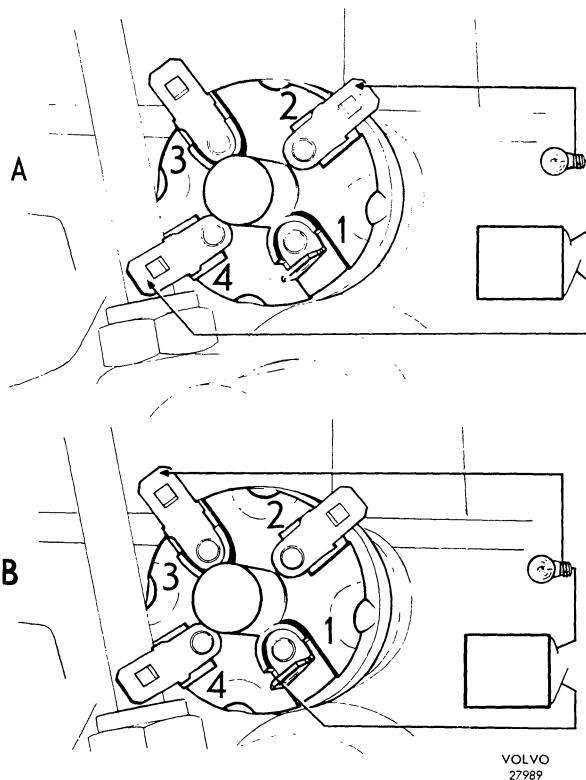

Fig. 4-65. Adjusting starter inhibitor
3. Connect a control lamp to the reversing light terminals as shown in Fig. 4-65 "A". Screw in the switch until the lamp goes out. Mark this position on the housing and switching with a pencil.
4. Connect the control lamp to both the other terminals, Fig. 4-65 "B". Screw in the switch until the lamp lights again and then mark the switch again. Then screw back the switch to halfway between both the marks. Lock with the locknut. Connect the leads.